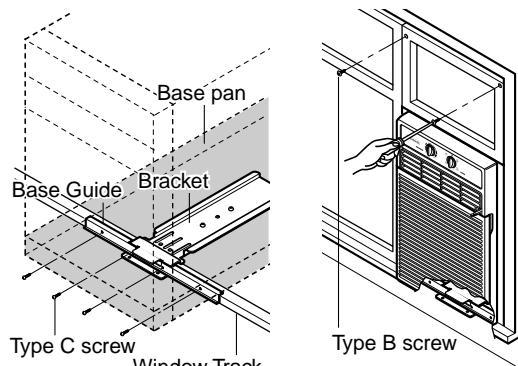

Figure 29
11. Drill 1/8 inch holes in window track through the existing holes on base guide. Screw 4-type C screws through the holes. (See Figure 29)
13. Drill 1/8 inch hole in window jamb to align with the existing holes in the curtain frame. Attach curtain frame to window frame with 2-type B screws. (See Figure 29)